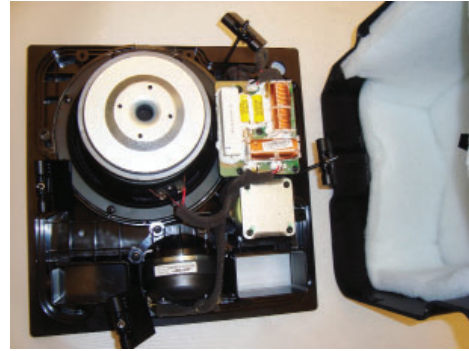

Figure 13
2.6 Carefully lift off the baffle from the enclosure, taking care not to damage the baffle or internal components as shown in figure 13.